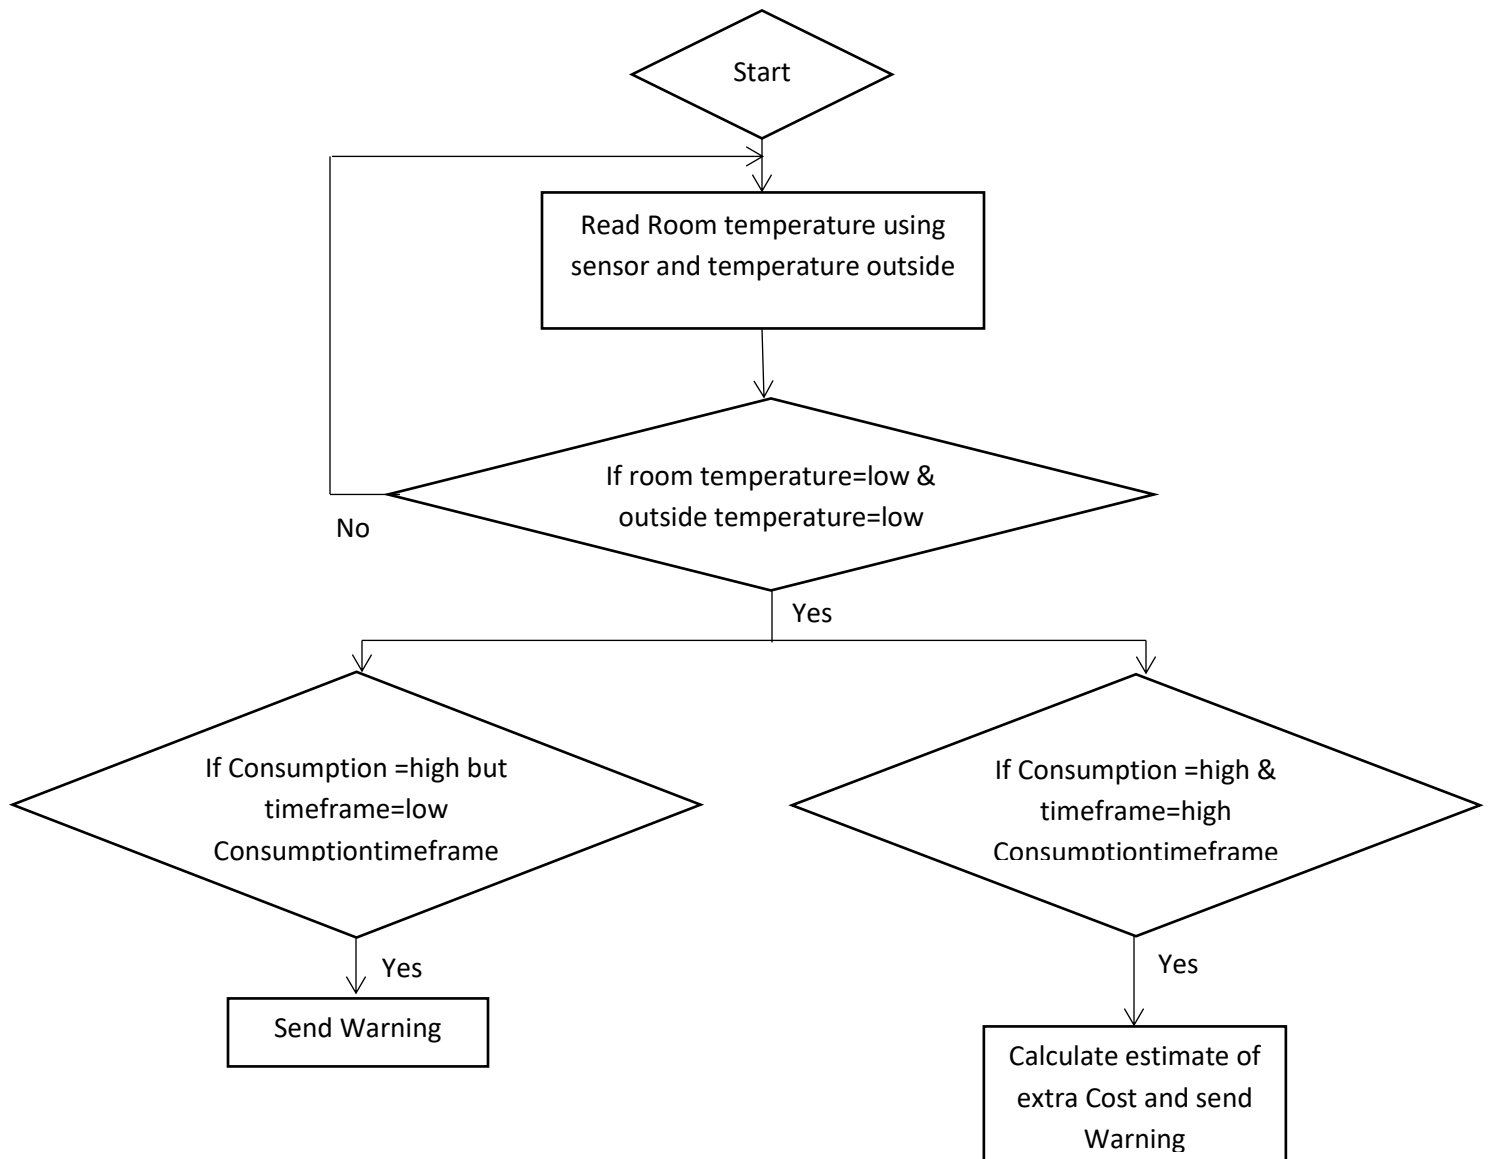

Figure 5: Logical Flow the "Intelligent Electricity Consumption Monitoring System"
6. Figure 5: Logical Flow the “Intelligent Electricity Consumption Monitoring System”